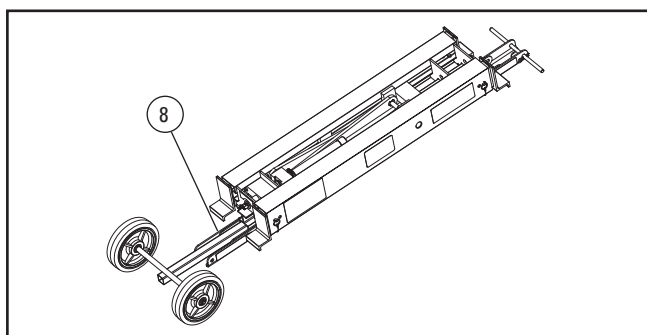

Fig. 22 Trolley assembly 4
- 5 Check that the Flex-Lifter™ is attached to the wheel frame, and the handlebar is tightly fixed (see Figure 22).